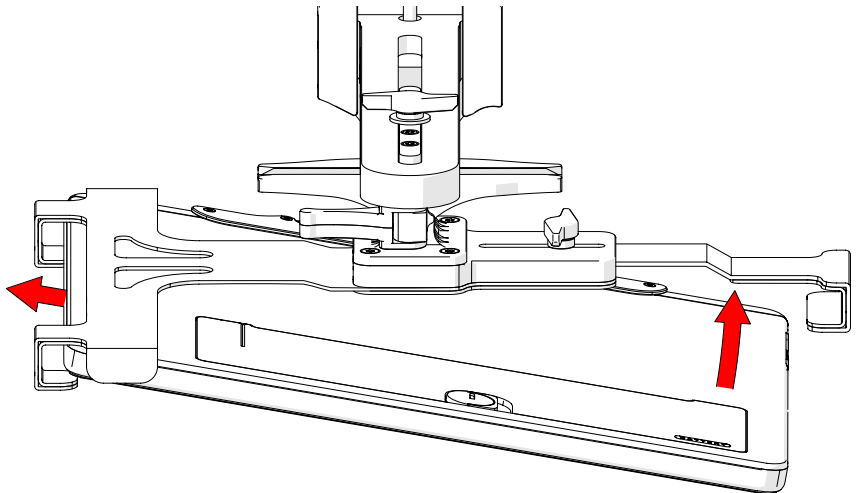

Fig. 48 - Place detector within the tabs of the detector holder
2. Position the detector within the tabs of the detector bracket (*Fig. 48*).